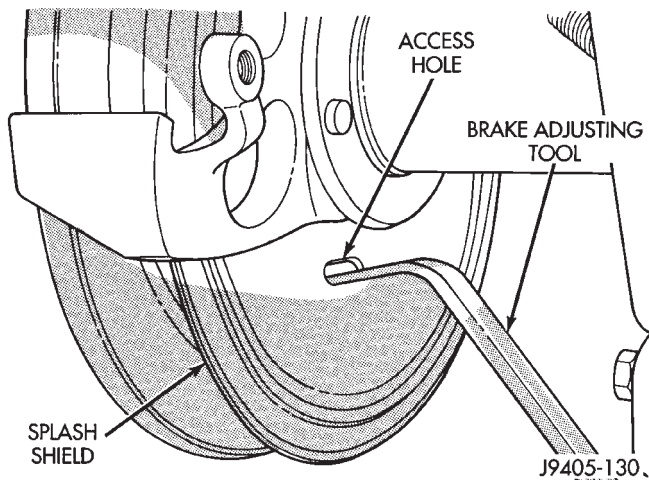

Fig. 84 Park Brake Shoe Adjustment
- (1) Remove wheel and tire assemblies.
- (2) Secure rotor with two wheel nuts.
- (3) Remove rubber access plug from back of splash shield.
- (4) Insert brake tool through access hole in splash shield (Fig. 84). Position tool at bottom of star wheel.
- (5) Rotate star wheel upward in counterclockwise direction to expand shoes (while facing front of vehicle).
- (6) Expand shoes until light drag is experienced. Then back off adjuster screw only enough to eliminate drag.
- (7) Install plug in splash shield access hole.
- (8) Install wheel and tire assemblies.